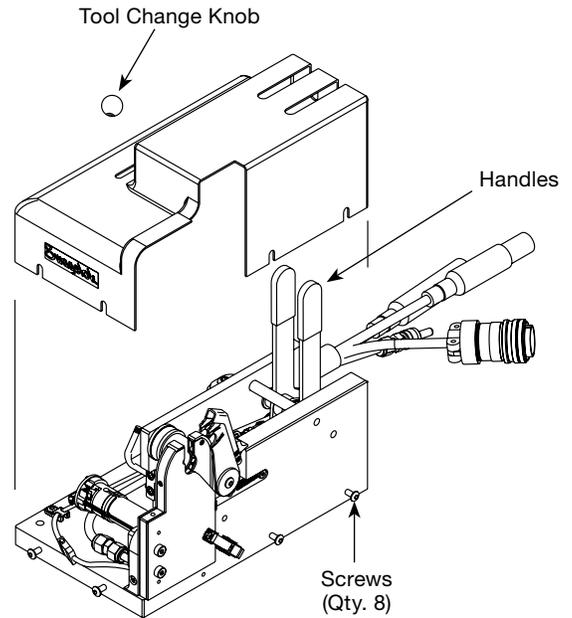

Figure 42 Removing the Metal Shroud
6. Remove the metal shroud by lifting it straight up off of the base. See Figure 42.